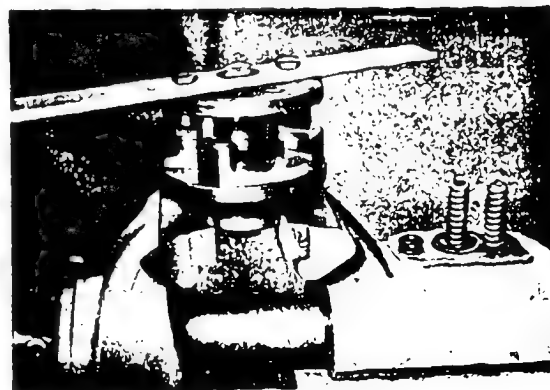

Fig. 14 Fix drive flange on coupling flange to assemble
4. Screw lever on drive flange and fix latter on coupling flange so that driving pins rest on flyweights (Fig. 14). Grease hub thoroughly first.